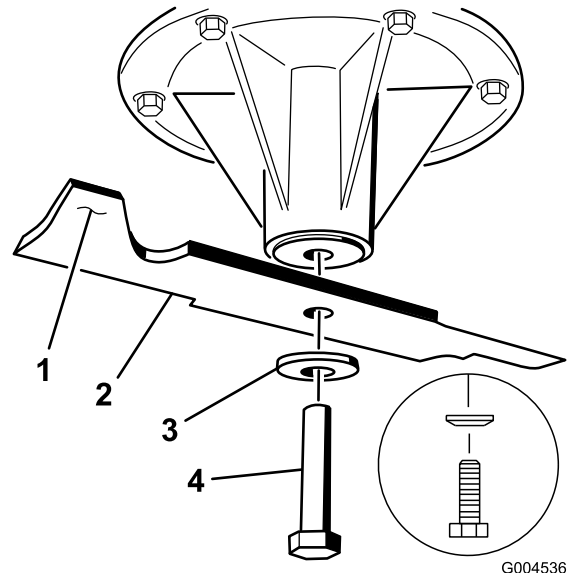

Figure 91
2. Remove the blade bolt, curved washer, and blade from the spindle shaft (Figure 91).